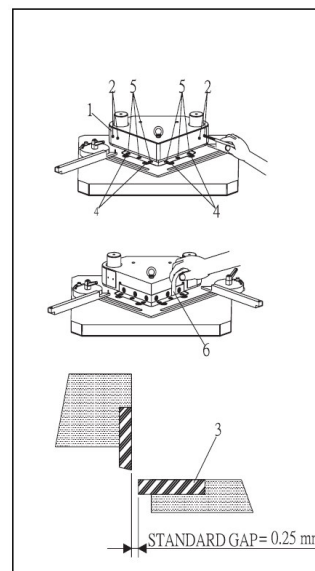

Fig. 13: Disassemble the safety cover
Step 2: Unscrew the screws (Pos. 2, Fig. 13) then remove the safety cover (Pos. 1, Fig. 13).
Step 3: Loose the bias screws (Pos. 4, Fig. 13) and blade screws (Pos. 5, Fig. 13).
Step 4: Measure the tolerance by 0.25 mm thickness gauge (Pos. 6, Fig. 13).